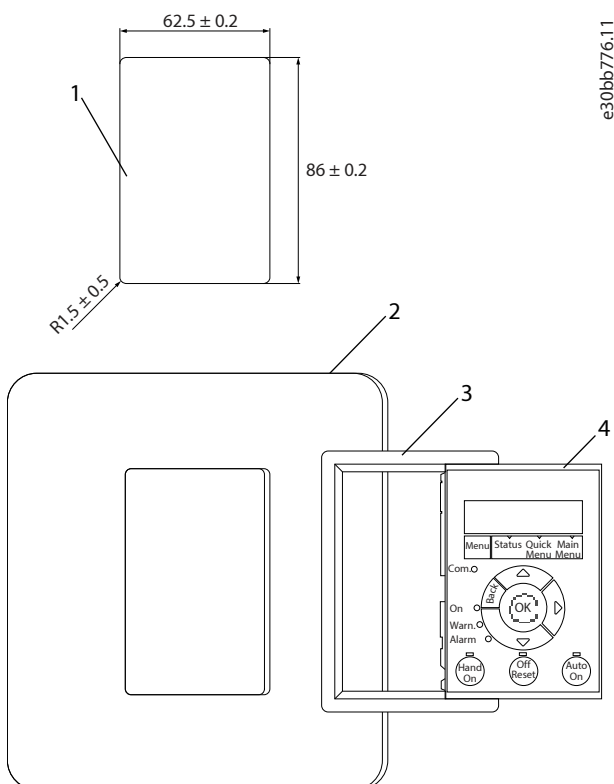

Figure 121: Place LCP on Panel (Front-mounted)
2. Place LCP on panel, see dimensions of hole in Figure 121.